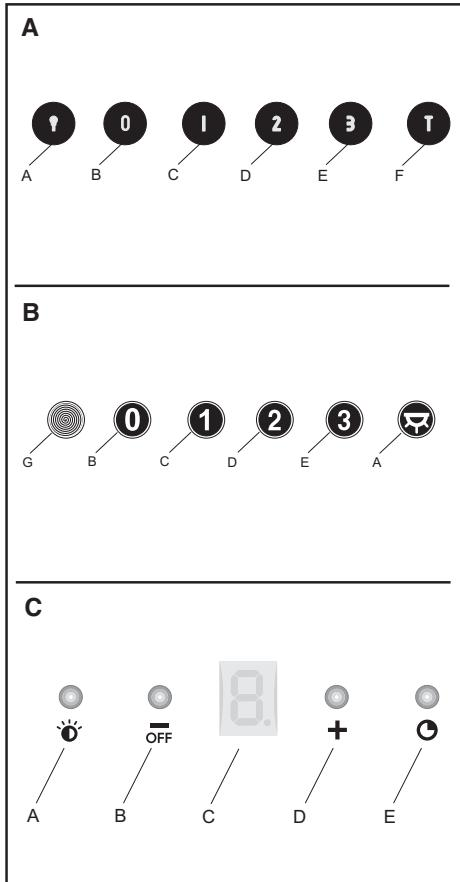

Fig.5
• **COMMANDS:** 1A)LUMINOUS_1B)MECHANICAL (Fig. 5) the key symbols are explained below: